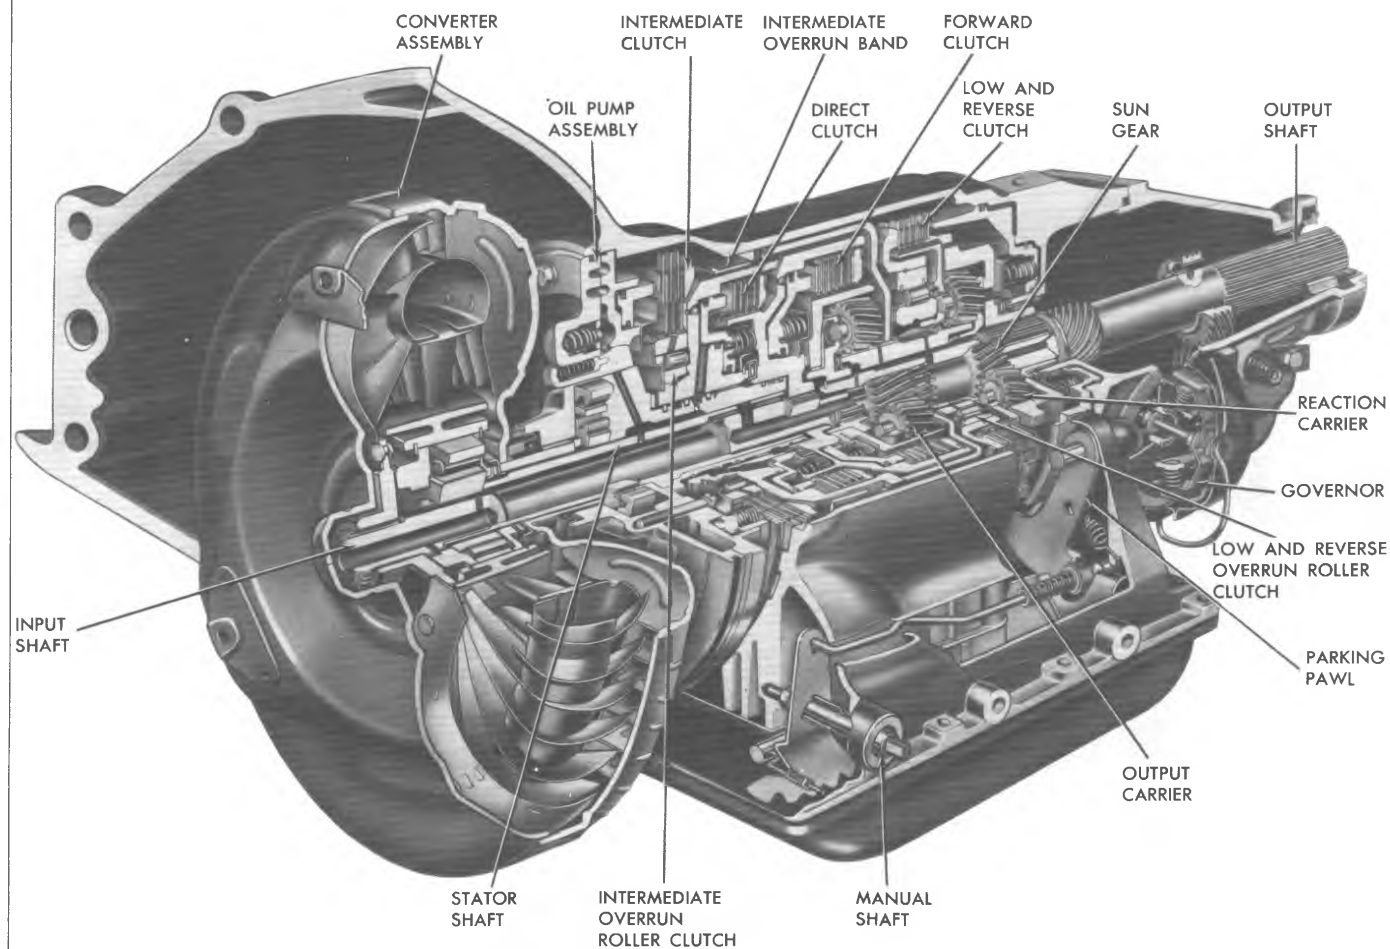

Fig. 7A-1B-CBC 350 Sectioned View
1. Install Holding Fixture J-8763-02 on transmission and place into Holding Tool base J-3289-20 with converter facing up (fig. 7A-2B).